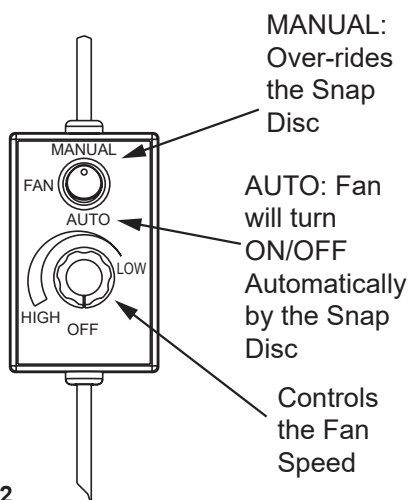

Figure 15.2
2. The blower is equipped with a speed control. Adjust the fan speed by turning the speed control clockwise to "Low" or counterclockwise to "High" (Figure 15.2).